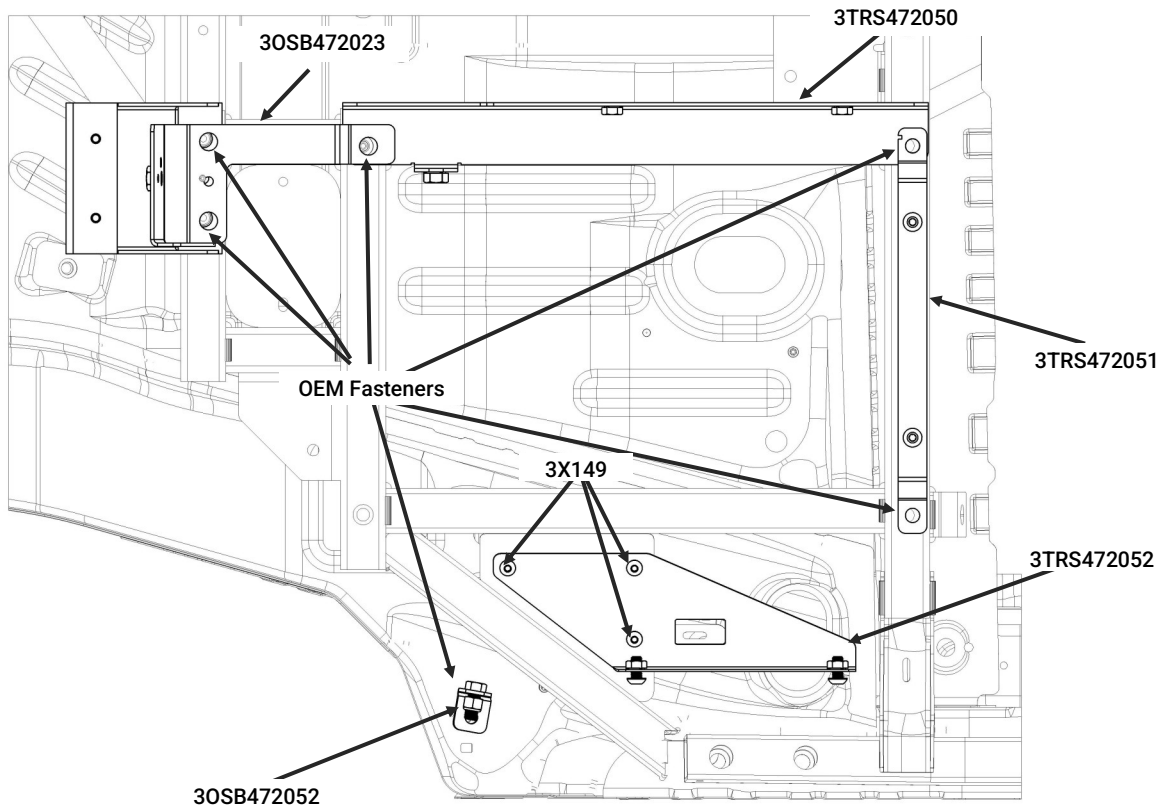

Figure 10
6. Place the Outer Seat Bracket back into position on the OEM gusset and slide the Outer Seat Bracket Nut Plate [3TRS472053] under the gusset. Securely fasten the bracket using (3) [3X149] 5/16-18X3/4" button head screws and a 3/16" hex wrench.
9. Place the OSB Buckle [3OSB000002 or 3OSB109RP for retractor belts] against the outboard face of the Outboard Seatbelt Tab. Secure the buckle in place using a 5/8" wrench and socket and (1) [3X616] 7/16-20X1" grade 8 hex bolt and (1) [3X614] 7/16-20 grade 8 hex nut.
10. Figure 10 shows the locations of the seat brackets, 3OSB472023 only used with retractable seat belts.